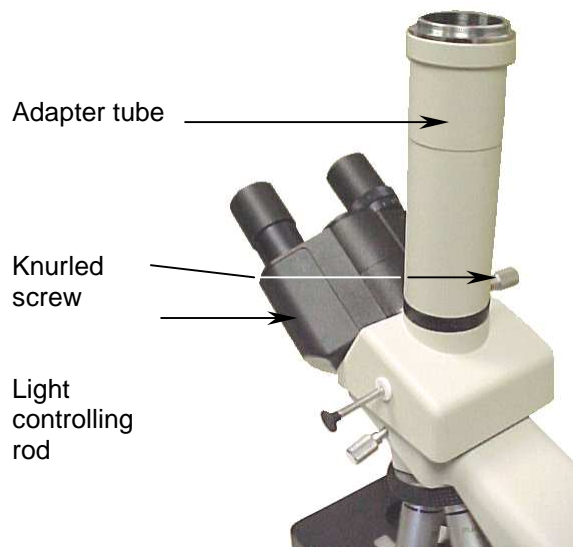

Fig. 6
2. Loosen the knurled screw located on the side of the vertical port until the protective cap can be removed. (Fig.6).
2. Loosen the knurled screw (Fig. 6) located on the side of the vertical port of the head, until the protective cap can be removed.